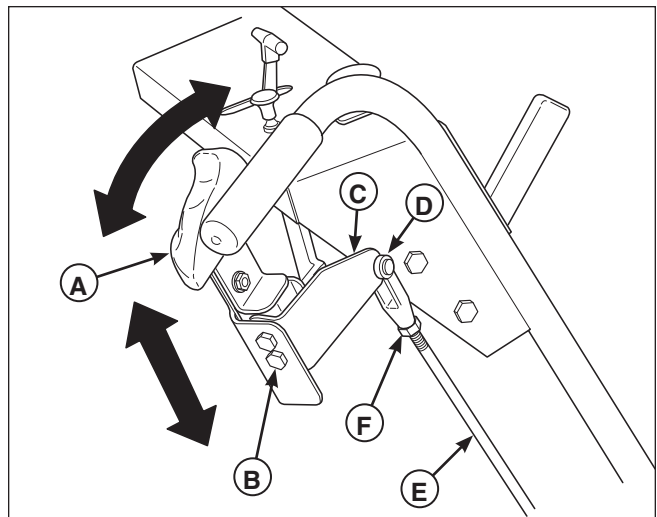

Figure 18. Ground Speed Control Lever Adjustment
1. Loosen the lever fastener (B, **Figure 18**) to adjust the lever height. Make sure the levers are parallel with the handle bars in both forward and reverse without contacting the handle bars.